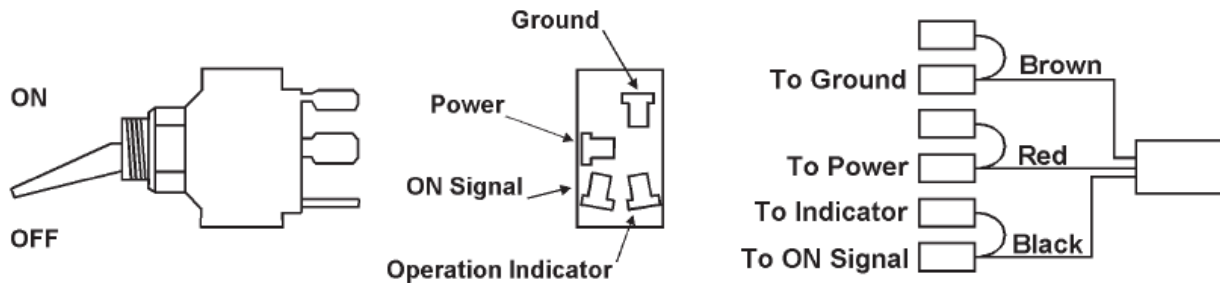

Fig. 408: On/Off Toggle Switch
6. Connect the terminals of the harness to the switch. See figure 408 on next page and wiring diagram figure 410 for reference.